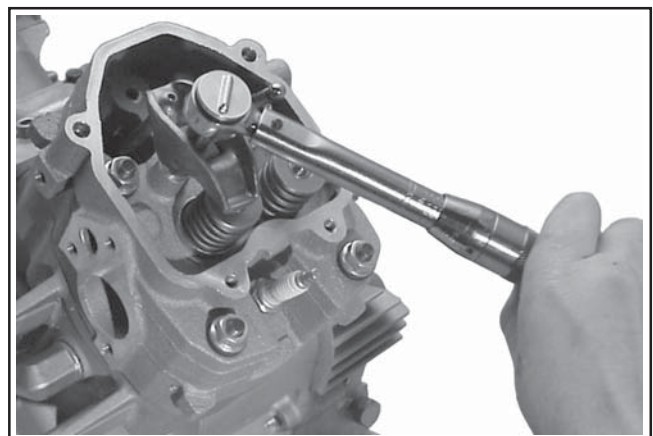

Figure 11-26. Torquing Rocker Arm.
- Assemble the rocker arms and rocker arm pivots onto the #1 cylinder head. Position the rocker arm on the push rod and the end of the valve. Insert the hex. flange screw through the pivot, thread it onto the head, and torque it to **11.3 N·m (100 in. lb.)**. If the rocker arms are mounted with a stud and nut, instead of a hex. flange screw, torque the nut to **17.3 N·m (153 in. lb.)**. See Figure 11-26.